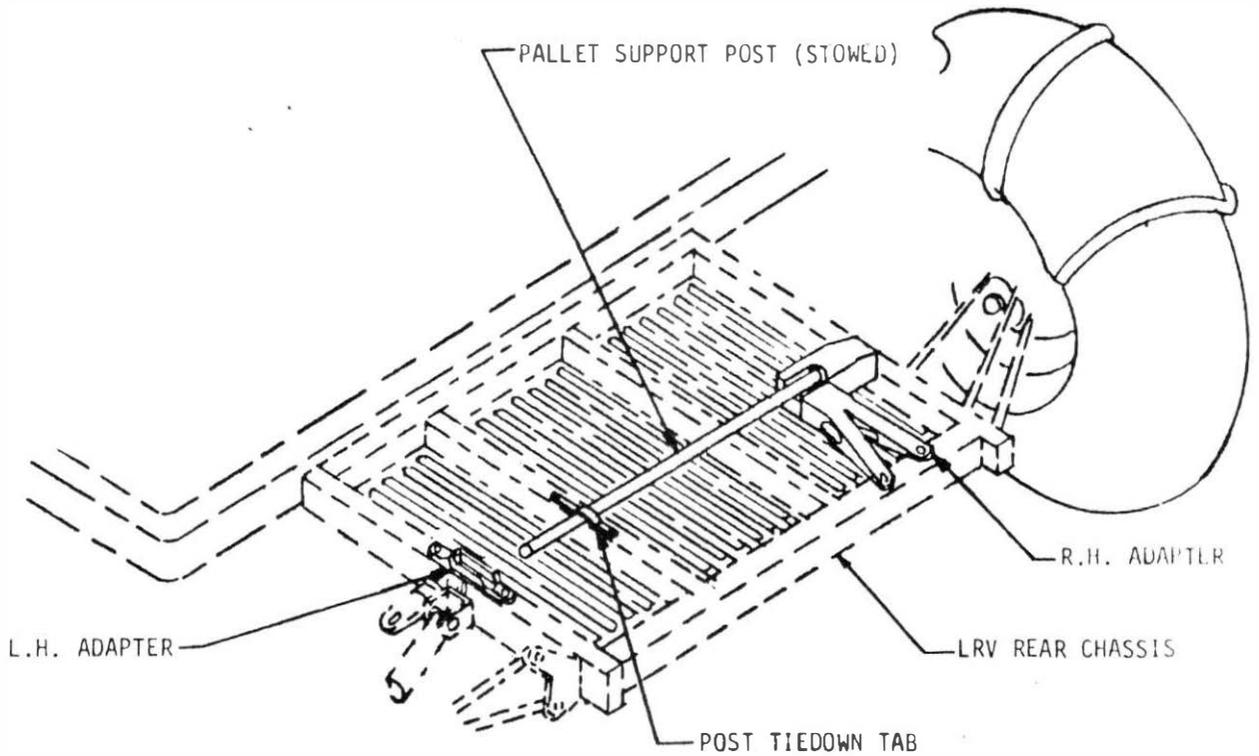

FIGURE 2-16 LRV REAR PAYLOAD PALLET ADAPTERS
a. Release the pallet support post tiedown on LRV aft chassis.	Figure 2-16.